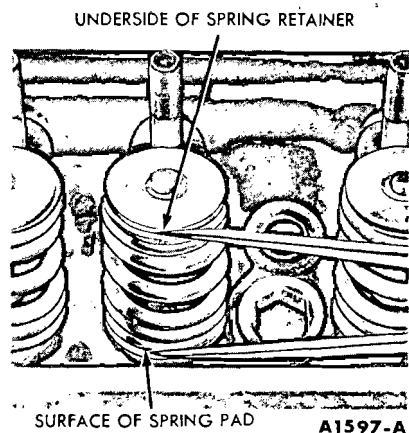

FIG. 34—Valve Spring Assembled Height
3. Measure the assembled height of the valve spring from the surface of the cylinder head spring pad to the underside of the spring retainer with dividers (Fig. 34). Check the dividers against a scale. If the assembled height is greater than specifications, install the necessary 0.030-inch thick spacer(s) between the cylinder head spring pad and the valve spring to bring the assembled height to the recommended height.